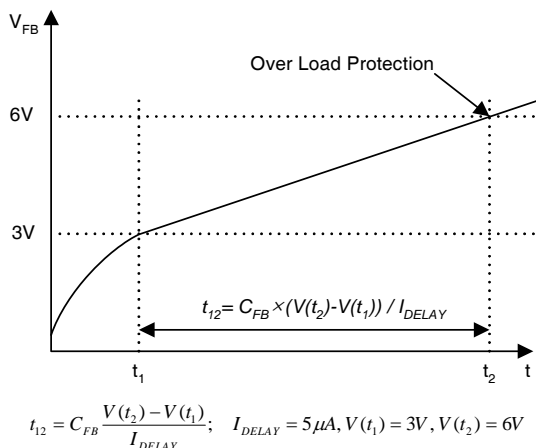

Figure 6. Over Load Protection (OLP)
4.1 Over Load Protection (OLP): Overload is defined as the load current exceeding a pre-set level due to an unexpected event. In this situation, the protection circuit should be activated in order to protect the SMPS. However, even when the SMPS is operating normally, the Over Load Protection (OLP) circuit can be activated during the load transition. In order to avoid this undesired operation, the OLP circuit is designed to be activated after a specified time to determine whether it is a transient situation or an overload situation. In conjunction with the I_{pk} current limit pin (if used) the current mode feedback path would limit the current in the Sense FET when the maximum PWM duty cycle is attained. If the output consumes more than this maximum power, the output voltage (V_o) decreases below its nominal voltage. This reduces the current through the optocoupler LED, which also reduces the feedback voltage (V_{FB}). If V_{FB} exceeds 3V, the feedback input diode is blocked and the $5\mu A$ current source (I_{DELAY}) starts to slowly charge C_{fb} up to V_{CC} . In this condition, V_{FB} increases until it reaches 6V, when the switching operation is terminated as shown in Figure 6. The shutdown delay time is the time required to charge C_{fb} from 3V to 6V with $5\mu A$ current source.